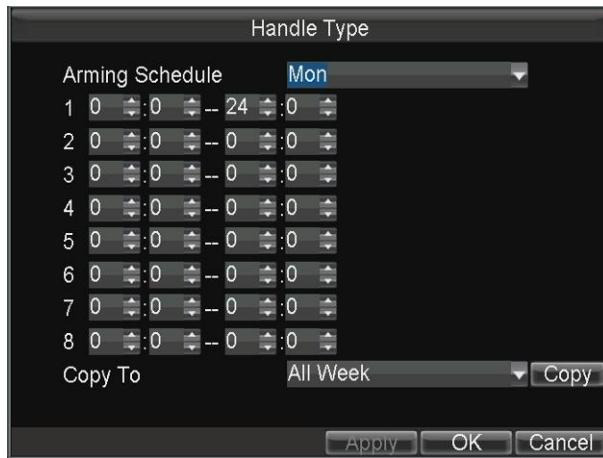

Figure 7.7 Arming Schedule Settings Interface
3. Click the **Set** button to configure the arming schedule for alarm output, as shown in Figure 7.7. Max. 8 time periods can be set within each day. You can click **Copy** to copy the settings to other days.